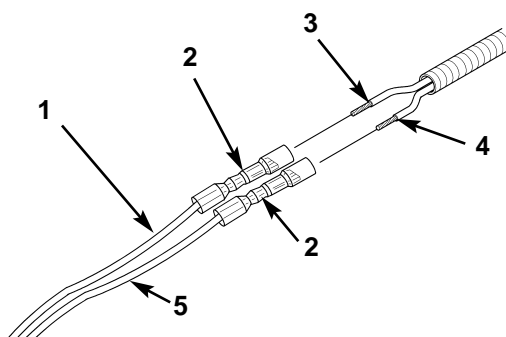

Figure 85. Connecting Harness Leads to Wheel Sensor Cable Leads.
35. Connect harness brown wire (figure 85, item 5) to sensor cable white wire (figure 85, item 4) and harness black wire (figure 85, item 1) to sensor cable black wire (figure 85, item 3) using two new wire connectors (figure 85, item 2). Wrap wire connectors (figure 85, item 2) with electrical tape.